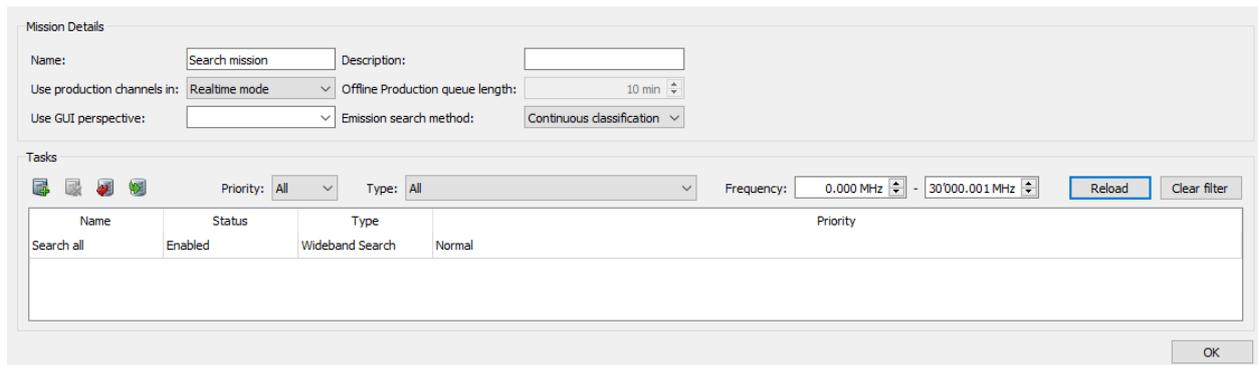

Figure 129: Edit Mission Window - Mission Details
- If a GUI perspective was defined for this mission, it will be applied as soon as the mission is activated. If the mission is deactivated, the GUI perspective will be restored to the state before activating the mission. See also Figure 129 and Table 47.